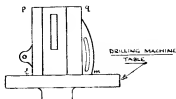

Fig. 6
(12) It will now be necessary to drill the base to receive the feedscrew nut. To do this, the edge l.m. (see Fig. 6) which contacts the drilling-machine table must be square with the datum face of the slide. Similar conditions apply to face p.q. This will ensure that the nut will be in alignment with the slide. The bearing bracket, item number 7, can also be assembled so that the feedscrew moves sweetly in the nut. The fitting of the tool clamping-plate, etc., calls for no comment, but a word of